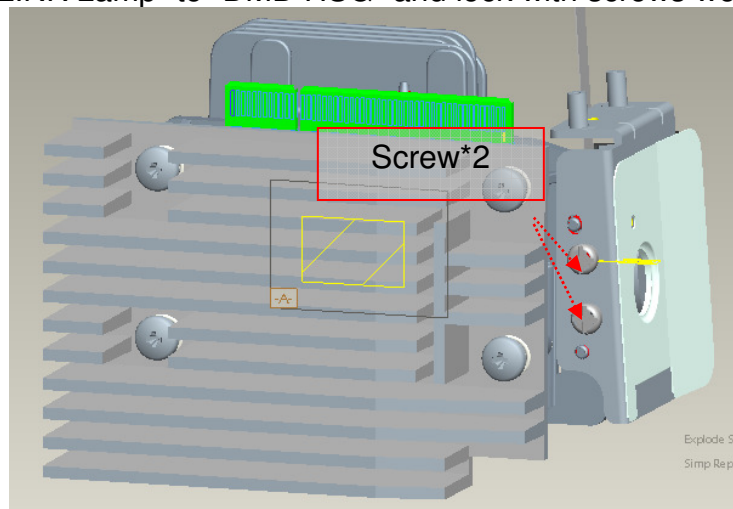

Fig. 6-2
6.3 Assemble “BKT LINK Lamp” to “DMD HSG” and lock with screws well(Fig. 6-2).